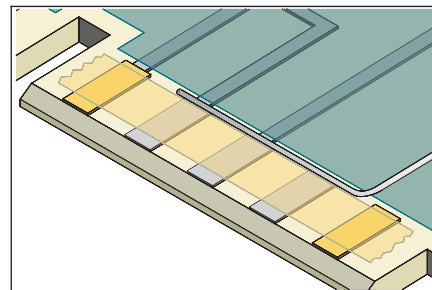

Figure 5 Solder a wire to the edge of the contacts needing plating.
2. Solder a wire directly to the inboard tip or connecting conductor of each contact to be plated. The smallest amount of solder should be used to prevent further contamination. (See Figure 5.)